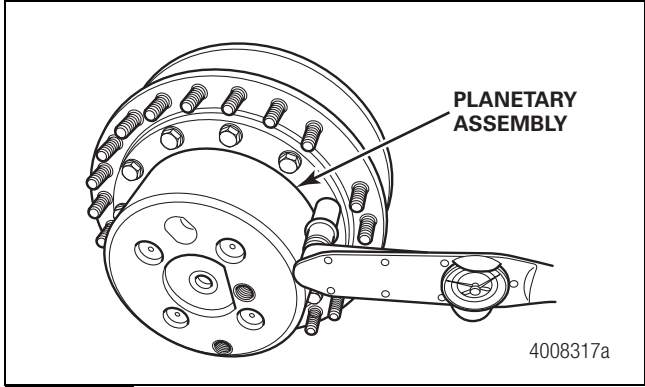

Figure 13.12
1. Install the planetary assembly onto the hub. Install the retaining bolts and tighten them to the torque specified in Section 20. Figure 13.12.